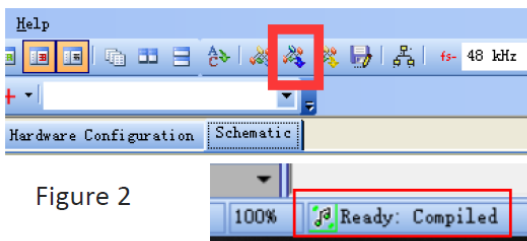

Figure 2
- Click “Link Compile Connect” (see figure 2) and you will find “Ready: Compiled” in the lower right corner of your computer.